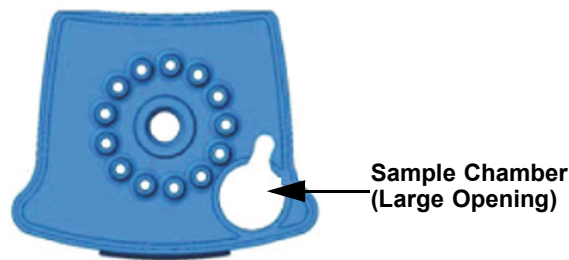

Figure 28. Xpert Xpress SARS-CoV-2/Flu/RSV Cartridge (Top View)
- To transfer the external control to the cartridge, squeeze the top bulb of the pipette **completely** again until it is fully flat to empty the contents of the pipette into the large opening (Sample Chamber) of the cartridge shown in Figure 28. Dispose of the used pipette.